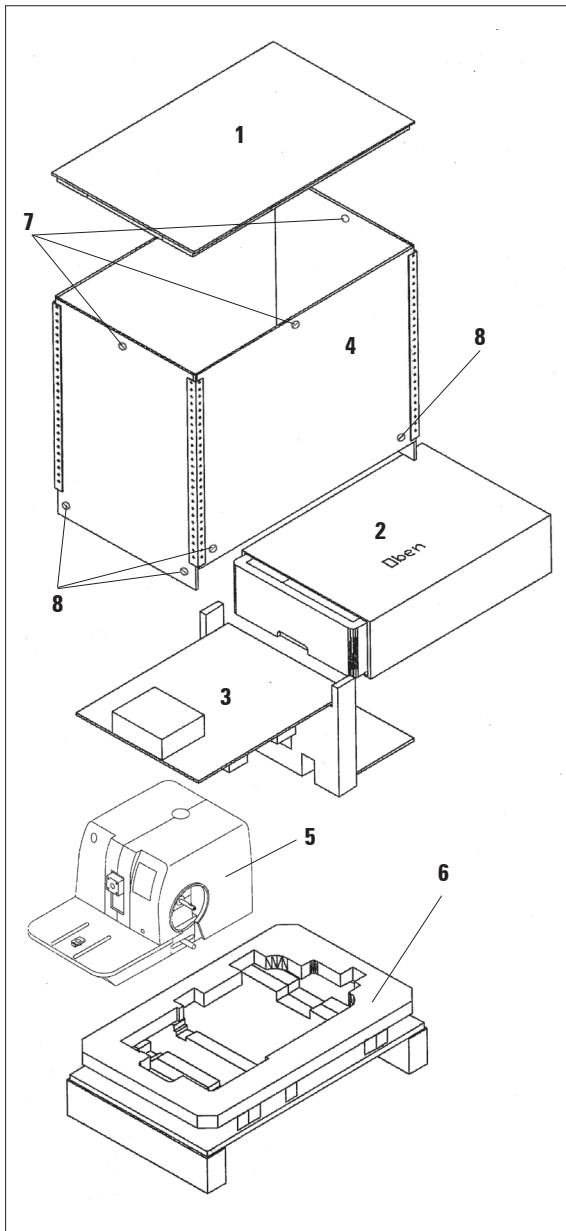

Fig. 9
**The accessories are included at the top of the package (item 2 in Fig. 9).**